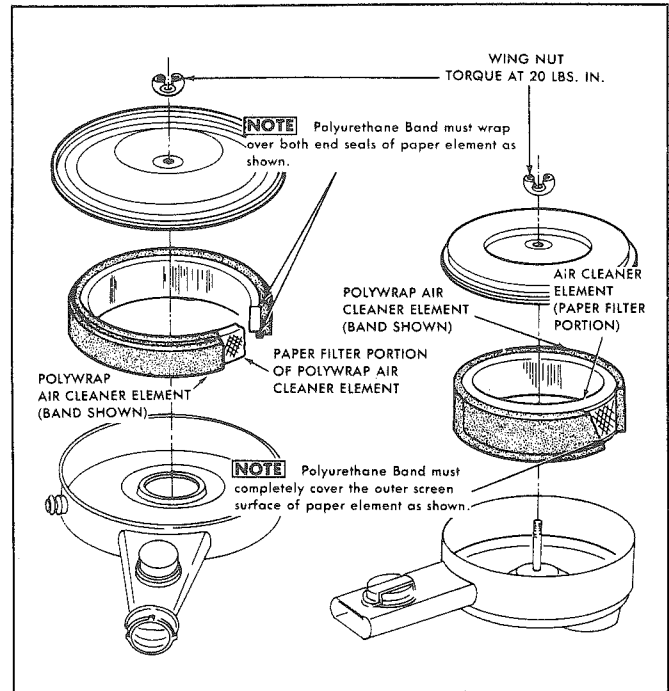

Figure 52 – Air Cleaner Assembly
**Air Cleaner Element Replacement (See figure 52.)**